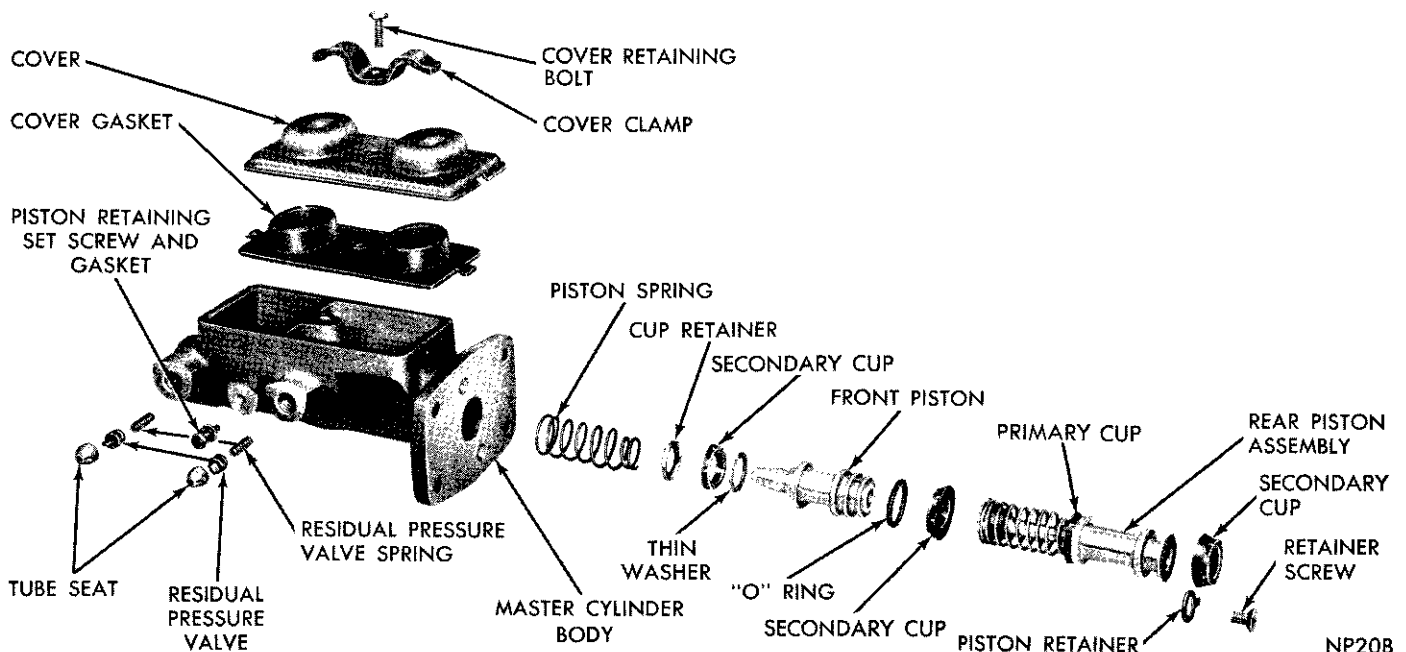

Fig. 4—Tandem Master Cylinder (Exploded View)
(1) Install thin washer on piston front end then, carefully work primary cup on front end of front piston with the lip away from piston (Fig. 4).
(2) Slide "O" ring over the rear end of front piston and into correct land.
(3) Carefully work front piston secondary cup (Fig. 4) into rear land, with the cup lip away from piston.
(4) Slide cup retainer over front end of piston, followed by piston spring (Fig. 4).
(1) Carefully work secondary cup over rear end of rear piston with lip of cup toward piston (Fig. 4).